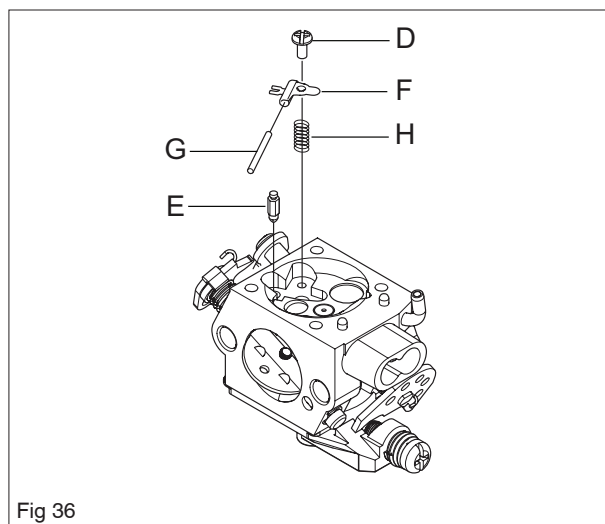

Fig 36
Remove screw (D) and needle valve (E) with lever arm (F), shaft (G) and spring (H). See figure 36.
3. That the needle valve (E) and its lever arm (F) are not worn. See figure 36.